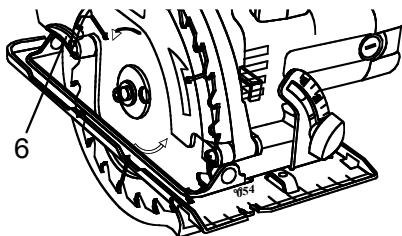
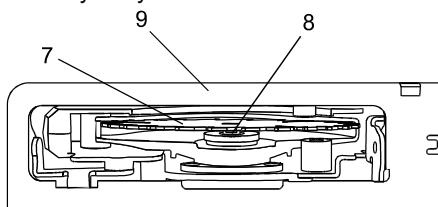

Fig. 3
Fig. 4
3. Open the blade guard by lifting upward on the blade guard lever (6) (Fig. 3). Rotate the blade guard in a clockwise direction to expose the blade (7).
4. While holding the blade guard lever in the open position, lift the blade (7) off the shaft (8) and slide it out through the slot in the sole plate (9) (Fig. 4).
5. To place a new blade onto the motor shaft, rotate the blade guard forward (Fig.3) and slide the blade through the slot in the sole plate until it fits over the motor shaft (Fig. 4).